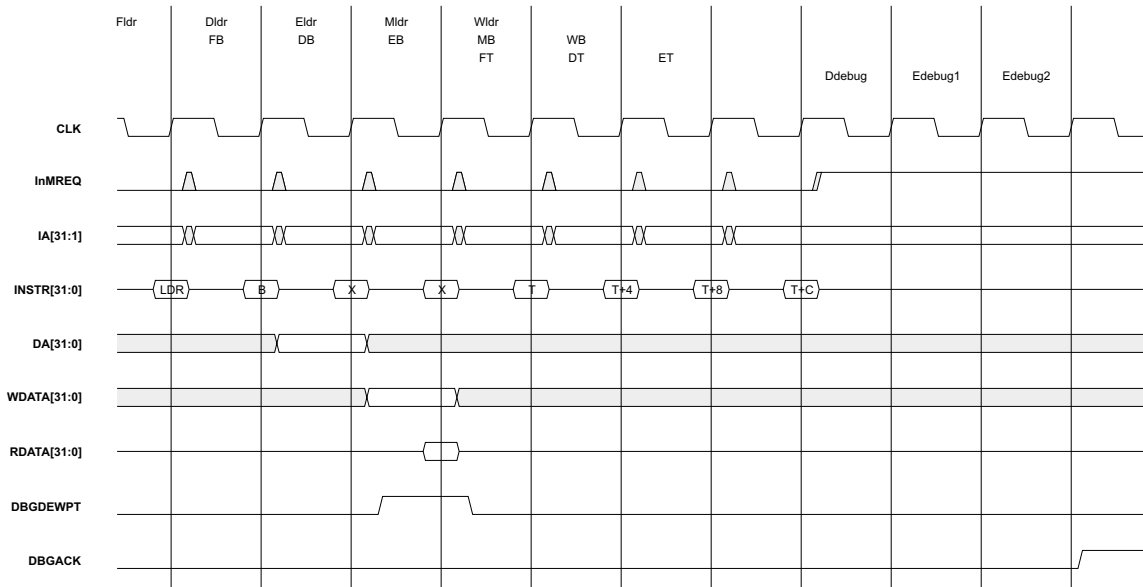

Figure 8-9 Watchpoint entry with branch
The instruction following the instruction that generated the watchpoint might modify the *Program Counter (PC)*. If this happens, you cannot determine the instruction that caused the watchpoint. However, you can always restart the processor. A timing diagram showing debug entry after a watchpoint where the next instruction is a branch is shown in Figure 8-9 on page 8-24.